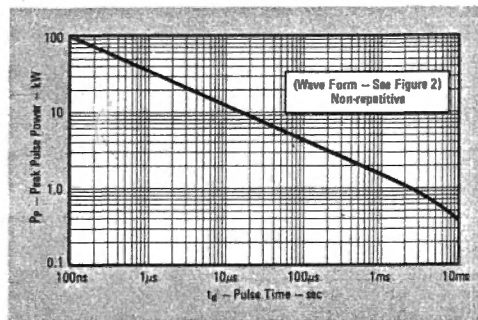

FIGURE 1 - Peak Pulse Power vs. Pulse Time
The maximum observed clamping voltage (V_C) is approximately the same for all pulses shown within the limits of the curve in Figure 1. In some instances, the thermal effect may be responsible for 50 to 70% of the observed change in voltage when subjected to high current pulses or severe duty cycles. The maximum reverse leakage current must be doubled for voltage types up to 11 volts for bipolar devices.
- Peak Pulse Power vs Pulse Time. Figure 1, Page 1-1